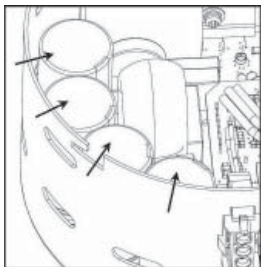

Figure 10a
5. Inspect capacitors inside of control unit for bulging or swelling caps [Figure 10a].